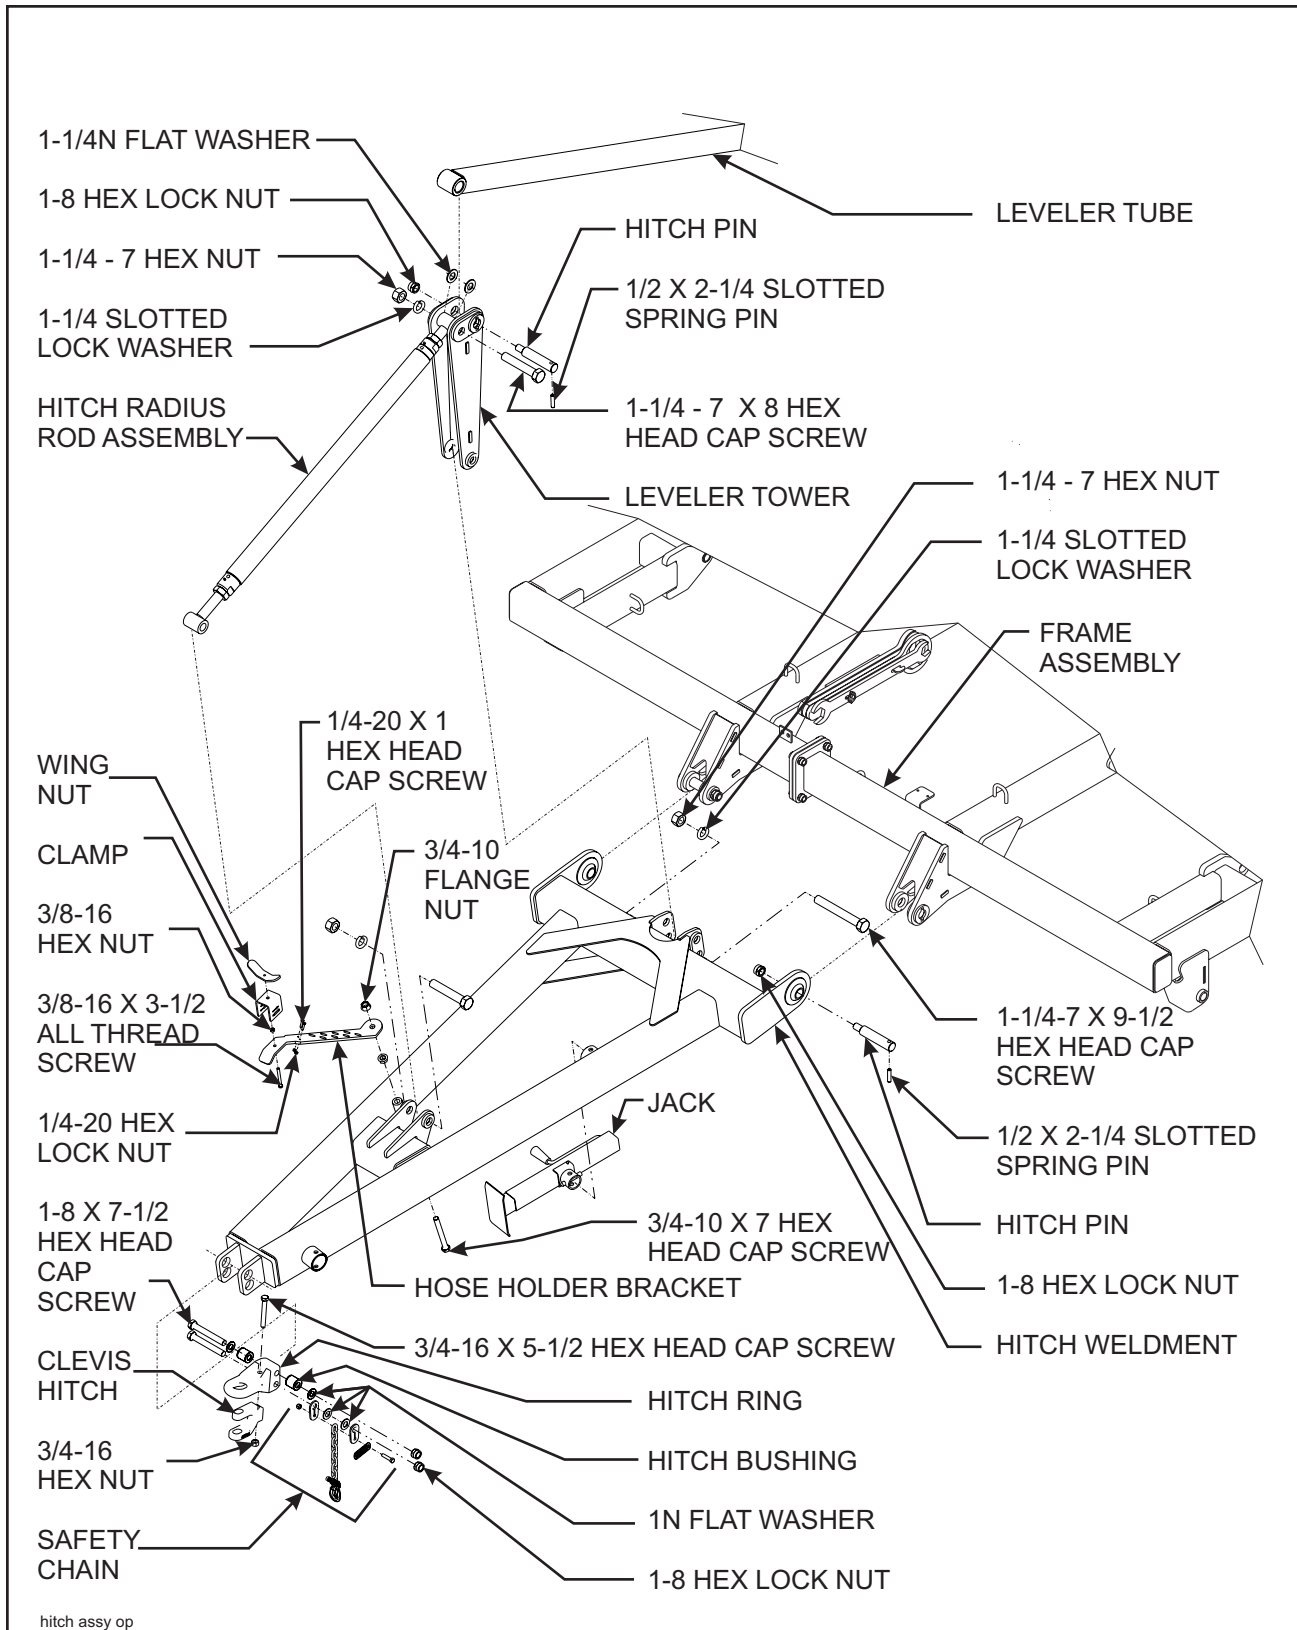

Figure 3-3 Hitch Installation
- 3-4.1** Attach the hitch weldment to the front of the frame using hitch pins, 1-8 hex lock nuts, and 1/2 x 2-1/4 slotted spring pins (**See Figure 3-3**).